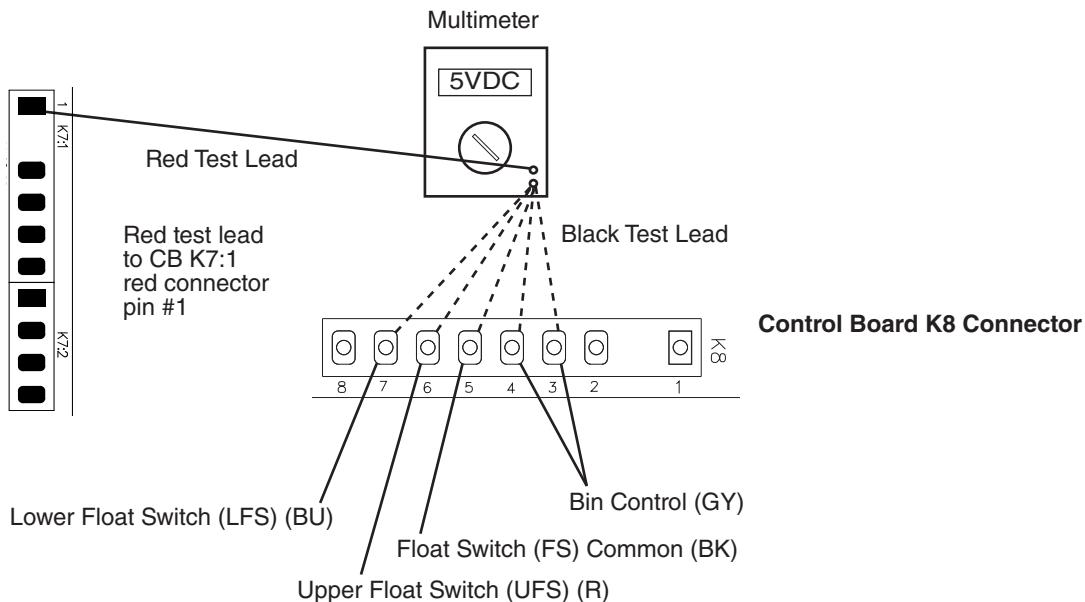

Fig. 2
(2) 5VDC CB K8 Connector: See Fig. 2.